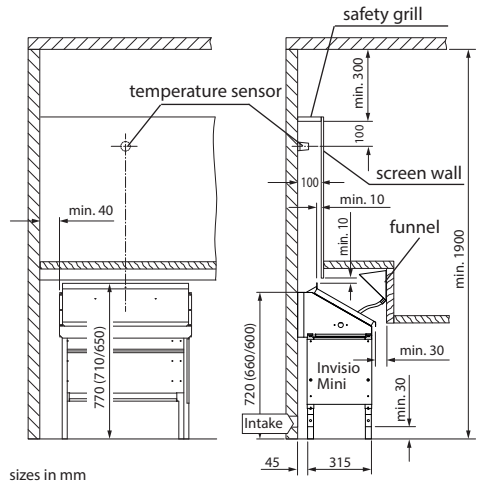

Fig. 1
The distance between partition wall or sauna bench or other flammable materials and the sauna heater shall be as shown below on Fig. 1.
The supplied safety grill shall be mounted along the top edge of the partition wall between this partition wall and sauna wall (Fig. 1). This shall prevent that an object may be accidentally dropped on the sauna heater.
**Contradictory to the advice concerning the mounting of the sensor of your sauna control unit, the temperature sensor shall not be mounted on the ceiling above the sauna heater but on the side wall as shown in the diagram (Fig. 1).**
Contradictory to the advice concerning the installation of the sensor given in the sauna control unit manual, the temperature sensor shall be mounted centered to the heater on the side wall 10 cm under the safety grill - as shown on the page 9, fig. 1.
Install the partition wall (screen) so that the safety gaps as given on Fig. 1, page 8, are observed. Make sure that the heater's hot air exit opening is lined up properly with the screen wall gap.